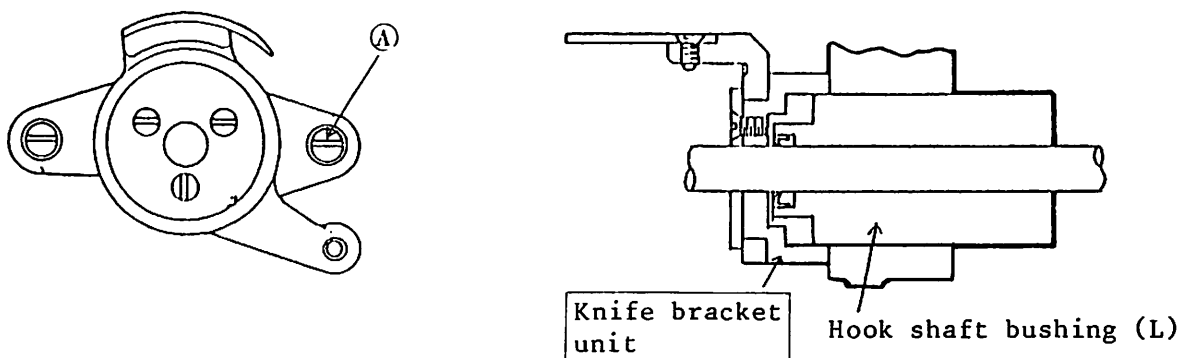

Fig. 10.2
- (1) Install the knife bracket unit to hook shaft bushing (L) with screw A (see Fig. 10.2).